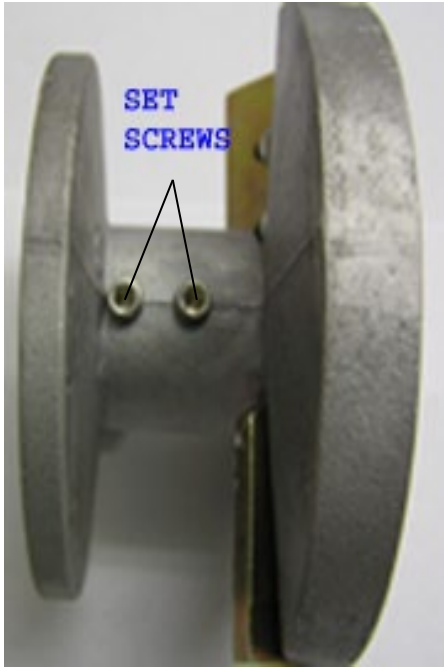

Figure 1
1. Locate the two set screws in the collar of the cutting head (see figure 1) by reaching in through the horn (see figure 2) and rotating the head until the set screws are on the bottom. (**Caution:** be careful of the sharp blades). You will need to look up through the chute in the cabinet of the machine to see the screws. (see Figure 3)